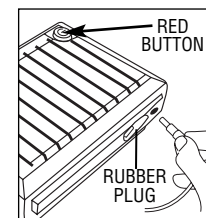

Fig. 8
1. Unsnap rubber plug from side of power pack and plug the power cord that you ran down the seam of your tent into the power pack. (Fig. 8)